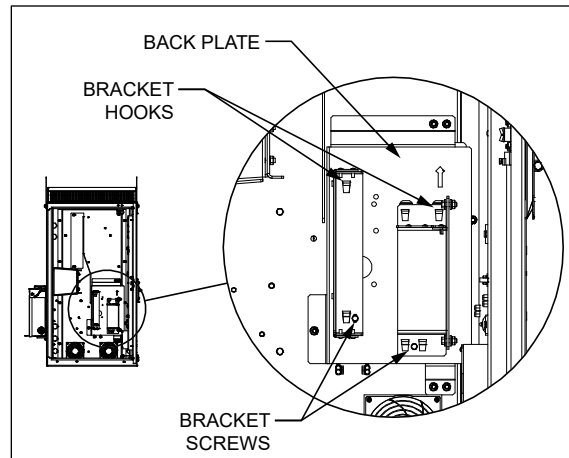

Figure 16 Hook Mounted Brackets
1. Remove the bracket by removing the screw near the bottom of the bracket and then lifting the bracket hooks off the holes in the back plate (Figure 16). Save the screws.